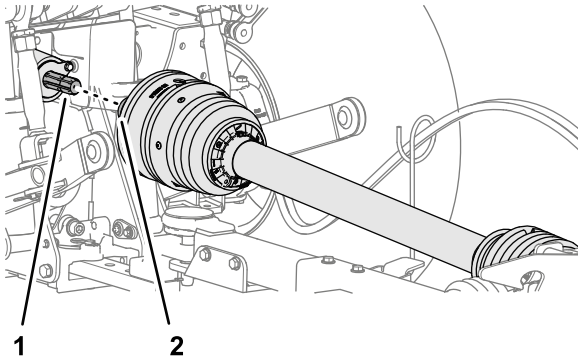

Figure 30
1. Align the quick-connect coupling of the PTO drive shaft with the output shaft of the PTO (Figure 30).